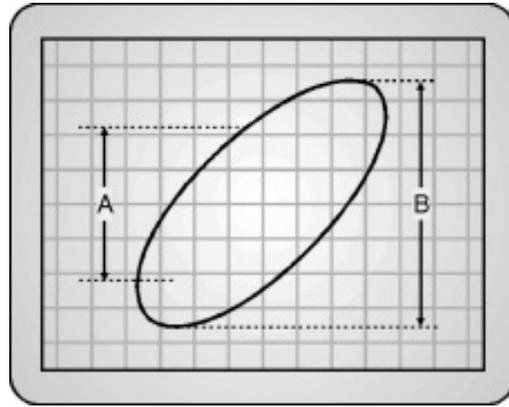

Fig. 7.15.8
- (1) This method makes use of lissajous pattern.
- (2) The time/div knob is set to X-Y EXT state. In this state, the signal given to CH1 acts as the sweep signal.
- (3) The vertical mode switch is kept in X-Y position. An ellipse such as the one illustrated in Fig. 7.15.8 is obtained on the CRO screen.